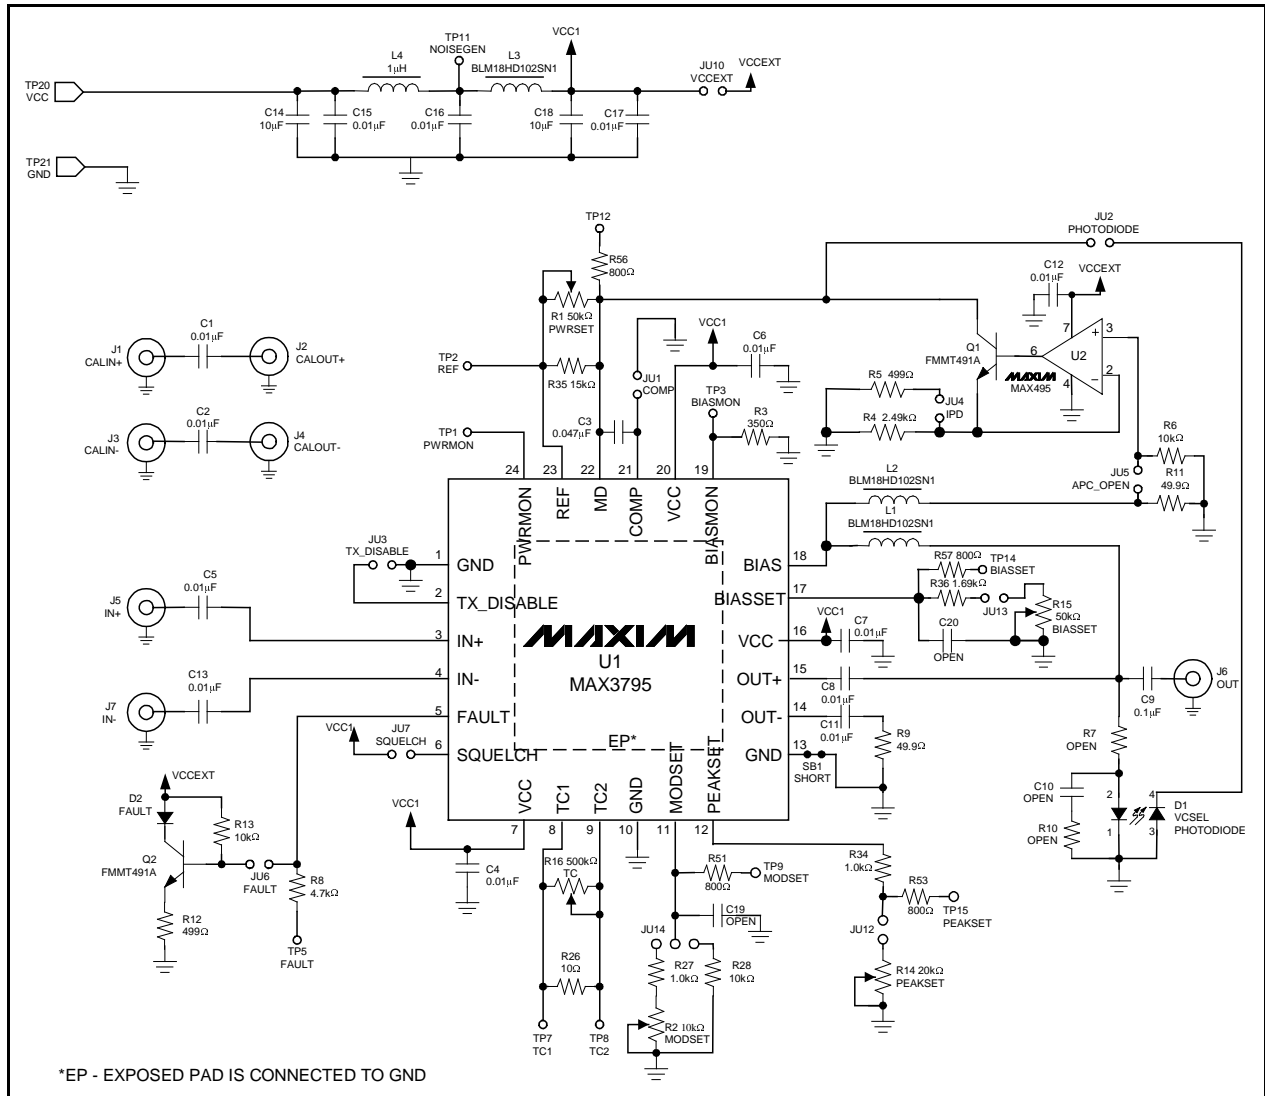

Figure 1. MAX3795 EV Kit Schematic
- 5) Connect a common cathode VCSEL as shown in figure 1. Keep leads short to reduce reflection.